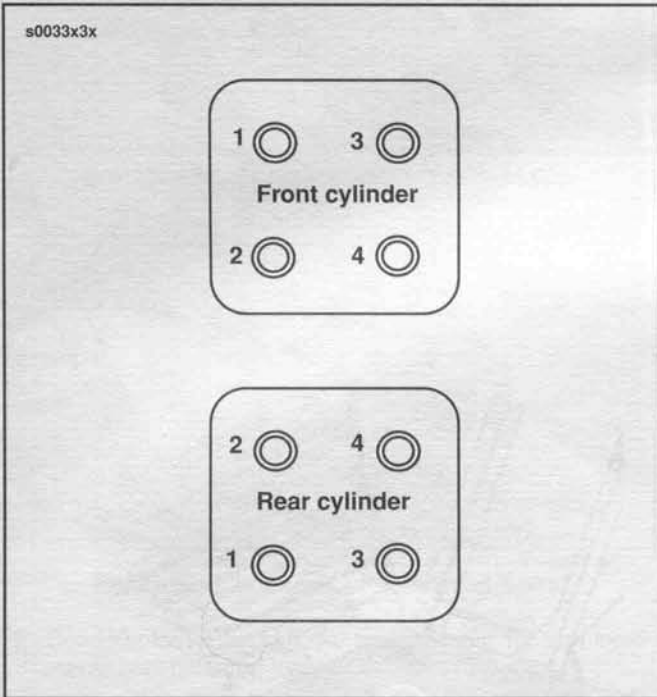

Figure 3-16. Cylinder Head Bolt Torque Sequence
1. See Figure 3-16. With a torque wrench, start at the cylinder head bolt numbered "1" and tighten to 7-9 ft-lbs (9-12 Nm). Then tighten "2", "3" and "4", in order, to 7-9 ft-lbs (9-12 Nm).